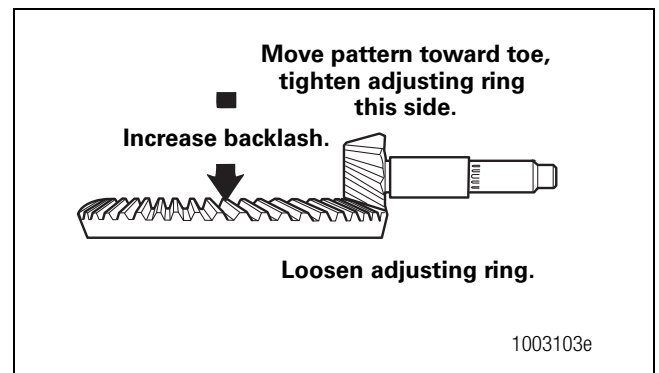

Figure 5.47
- A. Increase backlash to move the contact patterns toward the toe of the ring gear teeth. Figure 5.47.